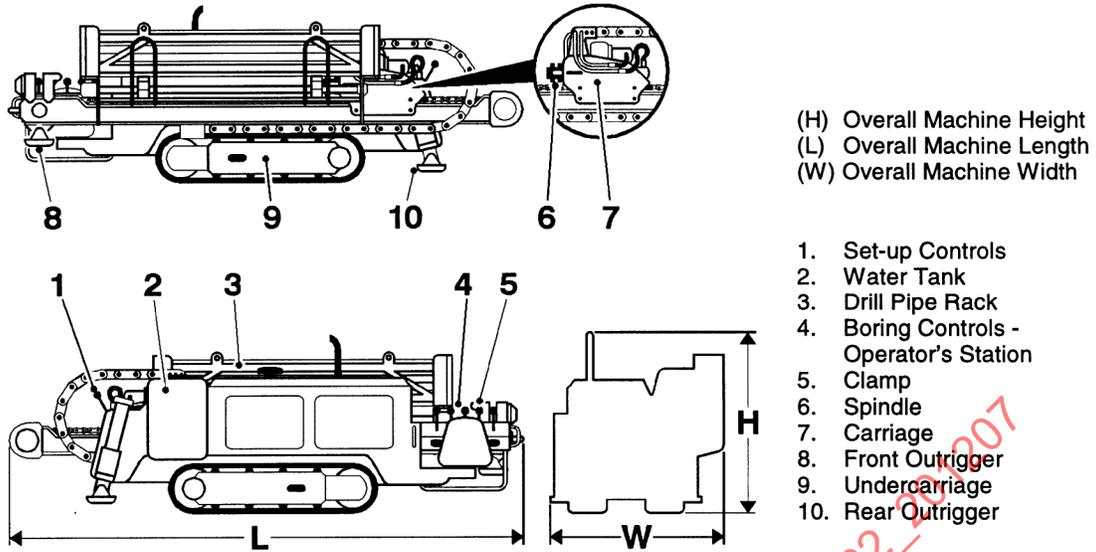

FIGURE 7—DIRECTIONAL BORING/DRILLING MACHINES—WALK-ALONG UNITS
4.5.1.1 *Walk-along Units*—Refer to Figure 7.
Refer to Figures 7 to 11.